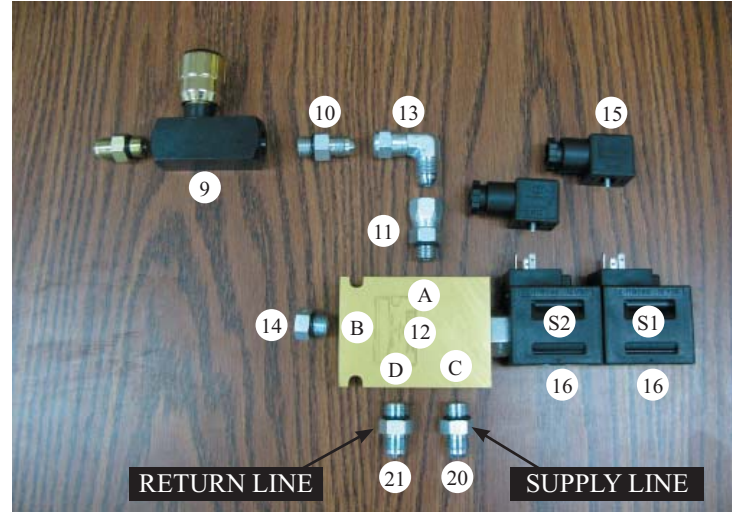

Figure 2.4 -Hydraulic Valve & fittings
Refer to *Figures 2.4 & 2.5* for this step.
1. Assemble the needle valve assembly as per *figure 2.4*. The parts are as follows; (#14)-6MBP in port 1 (#P2), (#11)-6MB-6FJX in port 3 (#P3), (#13)-6MJ-6FJX90 (#10)-6MB-6MJ (#9)-6ORB needle valve (#15)-Solenoid wiring connector (#16)-Valve Solenoids (#12) Hydraulic Valve.